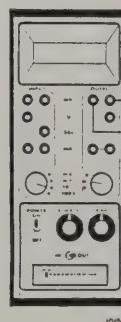

FIGURE 2-11a
1. Connect the 1045's mV output terminals to the T/C device under test, using the appropriate type of T/C leads (see Figure 2-11a below). Connect the red T/C lead to the black (-) terminal and the color-coded T/C lead to the red (+) terminal.